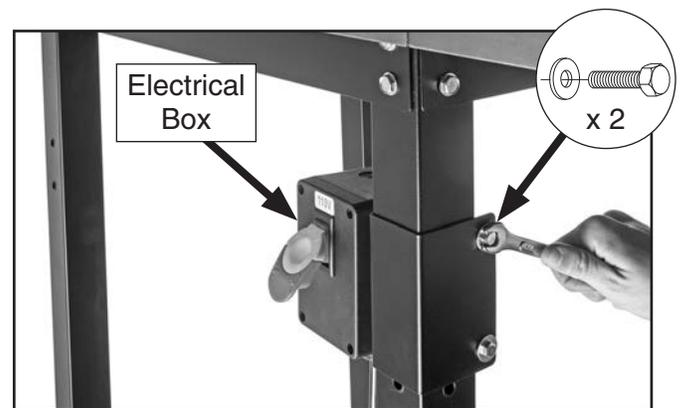

Figure 5. Example of attaching switch box to a stand.
1. Attach switch box (see **Figure 5**) to leg of your router table stand with pre-installed clamp and (2) ¼"-20 x 2½" hex bolts and (2) ¼" flat washers.